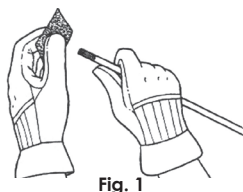

Fig. 1
2. Use emery cloth to lightly roughen surface of fiberglass core end (Fig. 1).